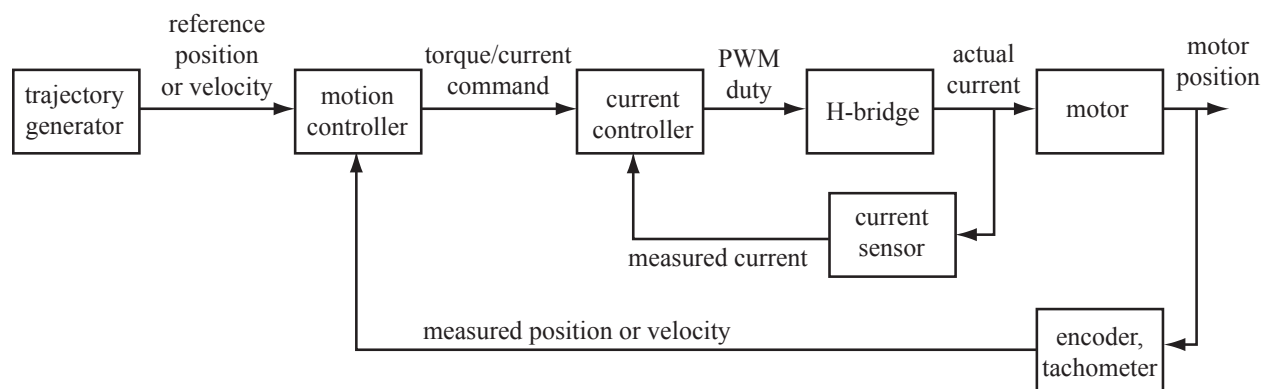

Figure 15.10: A block diagram for motion control.
An example block diagram for control of a DC motor is shown in Figure 15.10.² A trajectory generator creates a reference position as a function of time. To drive the motor to follow this reference trajectory, we use two nested control loops: an outer motion control loop and an inner current control loop. These two loops are roughly motivated by the two time scales of the system: the mechanical time constant of the motor and load and the electrical time constant of the motor.
²A simpler block diagram would have the Motion Controller block directly output a PWM duty cycle to an H-bridge, with no inner-loop control of the actual motor current. This is sufficient for most applications. However, the block diagram in Figure 15.10 is more typical of industrial implementations.
Copley Controls, <http://www.copleycontrols.com>, is a well known manufacturer of amplifiers for brushed and brushless motors for industrial applications and robotics. One of their models is the Accelus, pictured in Figure 15.13. The Accelus supports a number of different operating modes. Examples include control of motor current or velocity to be proportional to either an analog voltage input or the duty cycle of a PWM input. A microcontroller on the Accelus interprets the analog input or PWM duty cycle and implements a controller similar to that in Figure 15.10.
15. Clearly outline how you would implement the motor controller in Figure 15.10 in software on a PIC32. Indicate what peripherals, ISRs, NU32 functions, and global variables you might use. You may use concepts from the LED brightness control project, if it is helpful. In particular, indicate how you would implement: